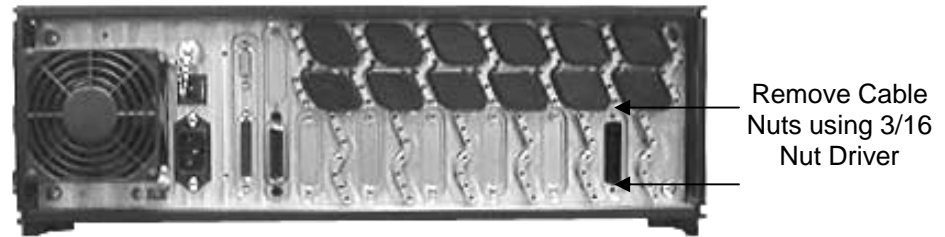

Figure 55: Cable nuts removal.
7. Remove the cable nuts for the axis to be removed. Cable nuts are located directly above and below the axis connector. *See Figure 55.*